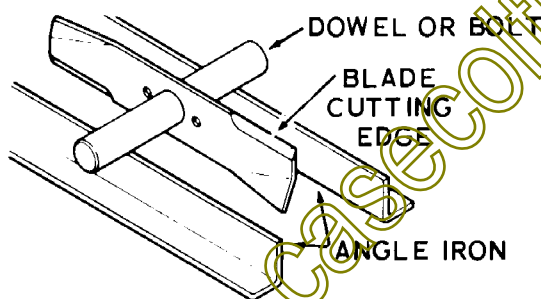

FIGURE 10
6. Balancing Blades. See Figure 10.